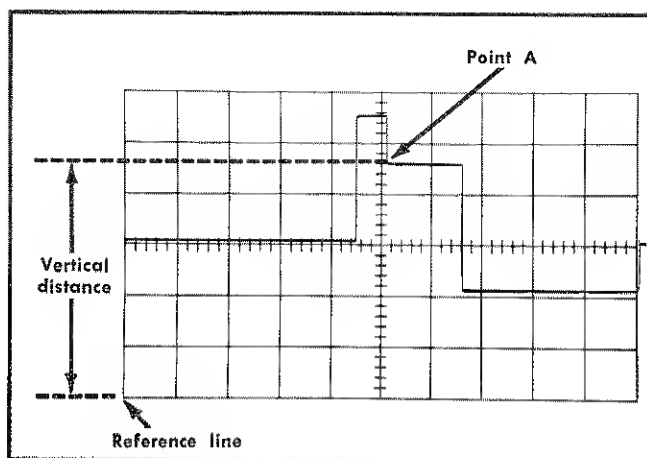

Fig. 2-16. Measuring instantaneous DC voltage with respect to a reference.
9. Measure the distance in divisions between the reference line and the point on the waveform at which the DC level is to be measured. For example, in Fig. 2-16 the measurement is made between the reference line and point A.
Example. Assume that the vertical distance measured is 4.6 divisions (see Fig. 2-16), the waveform is above the reference line, using a 10× attenuator probe and a VOLTS/DIV setting of 2.